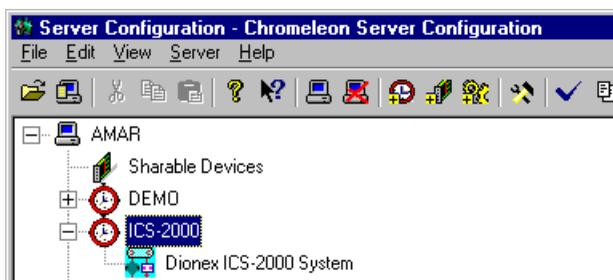

Figure B-12. Server Configuration with ICS-2000 Timebase
- Click the + icon next to the server name to expand the folder. The timebase you created is displayed (see Figure B-12).